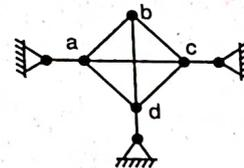

Fig. 10.110.
66. The pin jointed plane truss $abcd$ supported by means of links as shown in Fig. 10.110.